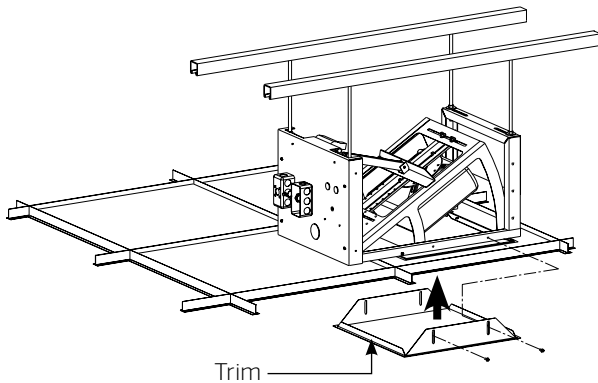

Figure 13
12. Install Trim Piece onto Da-Lift. See Figure 13. You may need to adjust the position of the Ceiling Tile Holder to clear the Trim.